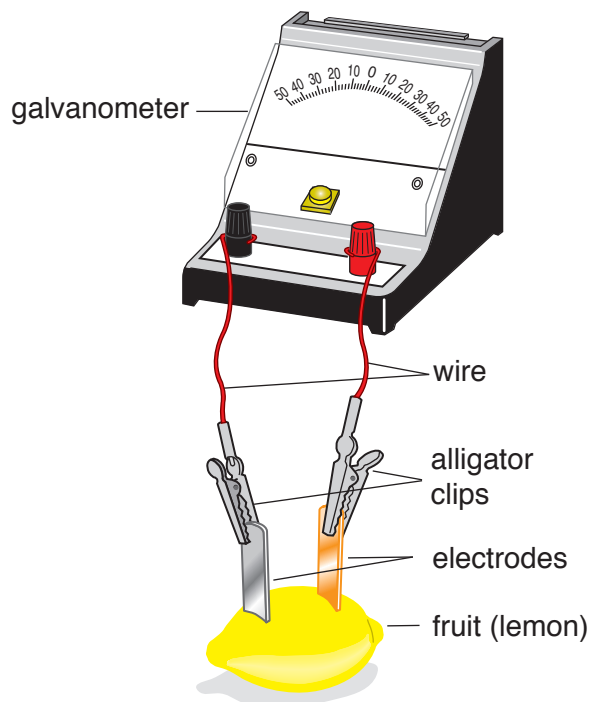

Figure 1
4. Attach the free end of the wire connected to the zinc electrode to the negative terminal of the galvanometer. Attach the free end of the wire connected to the copper electrode to the positive terminal (see Figure 1). You have created a fruit battery.